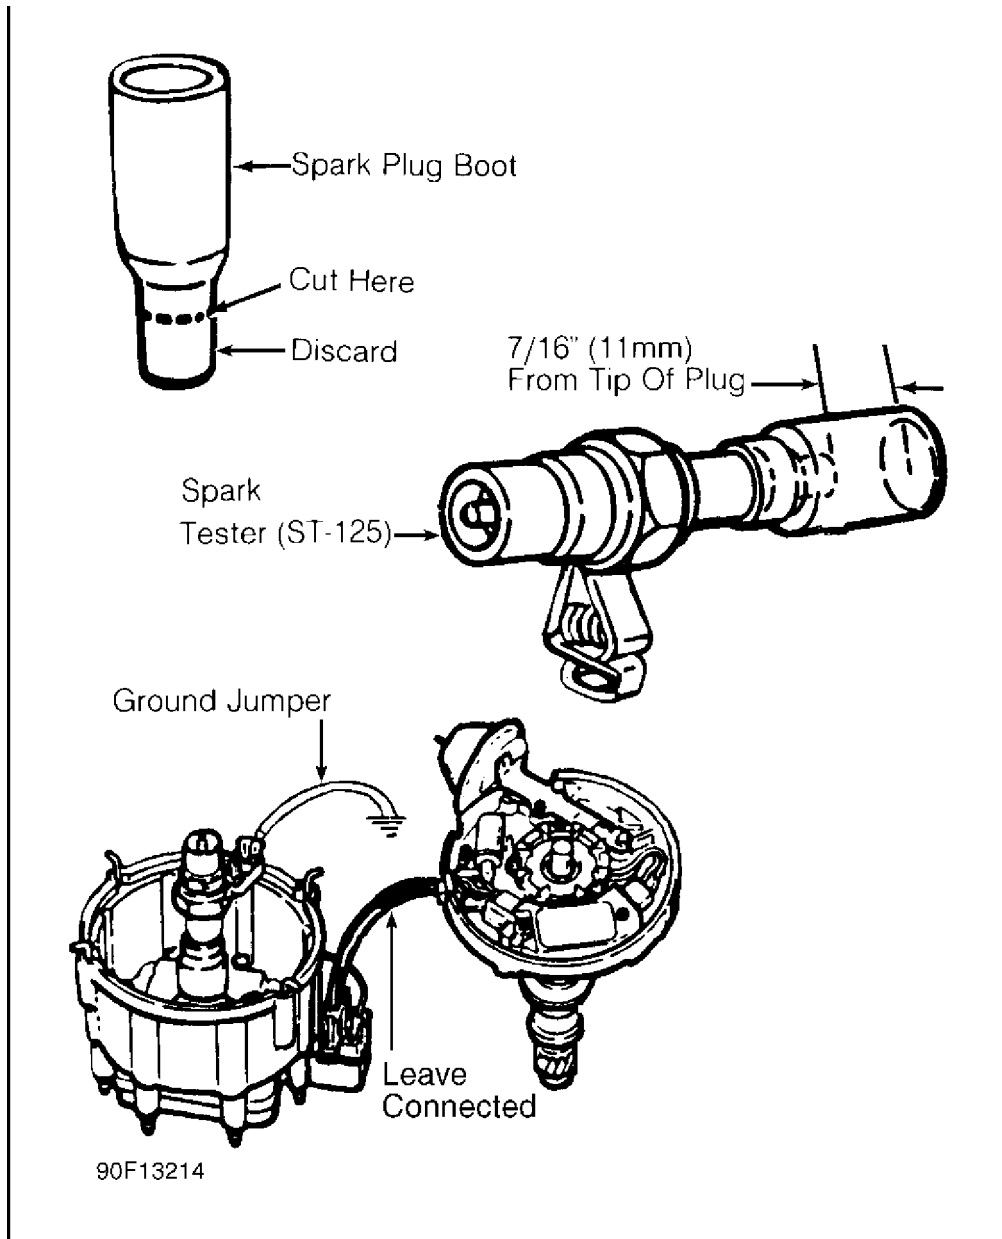

Fig. 1: Checking HEI Distributor Coil Spark (4.9L Cadillac)
4) If reading is greater than 7 volts, check voltage on TACH terminal with ignition on, engine off. If reading is 1-10 volts, replace module. Fabricate an HEI coil spark tester by trimming a spark plug boot and connecting it to Spark Tester (ST-125). See Fig. 1. Crank engine. If spark occurs, system is okay. If no spark occurs, replace ignition coil.
6) If voltage reading at TACH terminal of distributor is greater than 9.9 volts, remove and invert distributor cap with wires connected. Fabricate an HEI coil spark tester by trimming a spark plug boot and connecting it to Spark Tester (ST-125). See Fig. 1. Crank engine.